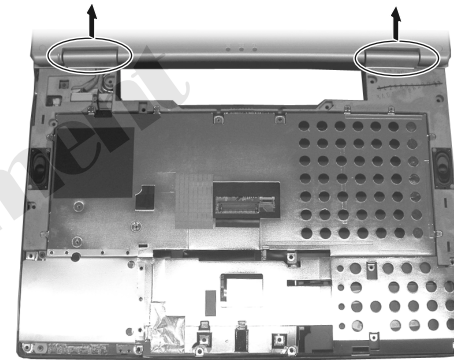

Figure 2-20 Remove the hinge covers
5. Remove two hinge covers. (Figure 2-20)